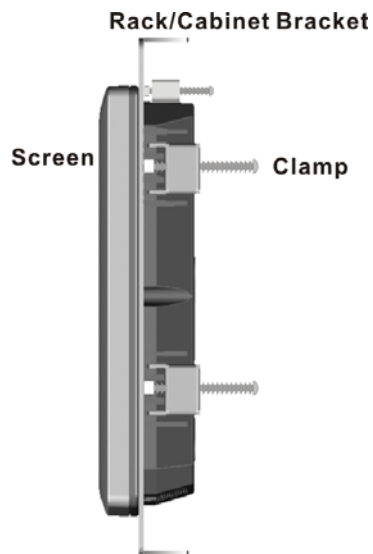

Figure 2-16: Secure the Rack/Cabinet Bracket
- Step 3:** Tighten the screws that pass through the rack mounting clamps until the plastic caps at the front of all the screws are firmly secured to the bracket (Figure 2-16).